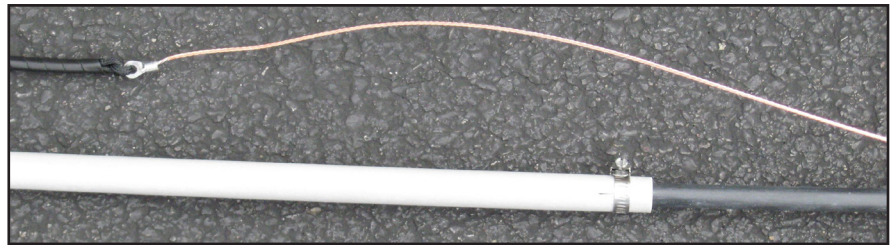

Fig. 88
- To place the wires under tension thereby making the wires straighten, loosen the 3/4" SS Hose Clamp on one (1) of the Spreader Assemblies and gently extend the 0.5" OD Rod till the wire is straight. Do not over-tension. See Fig. 88.